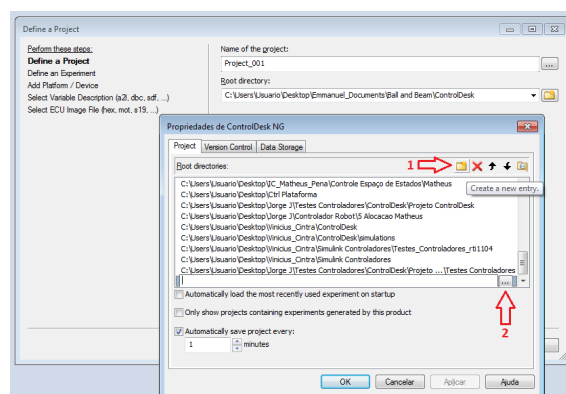

Figure 42: Root directory
3. The root directory must be in you project main folder. Just follow the steps in figure 42.